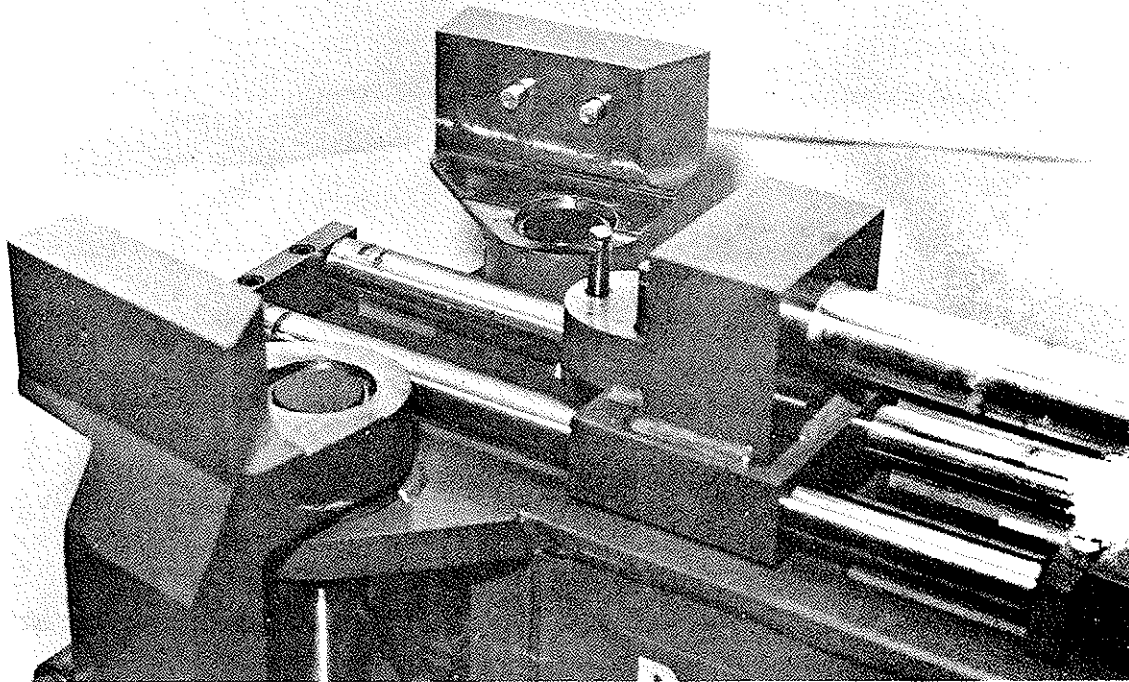

Figure 10
1. Place pivot arms in open position (see Page 3 for instructions) and move die carriage to the half-way position. (Figure 10)